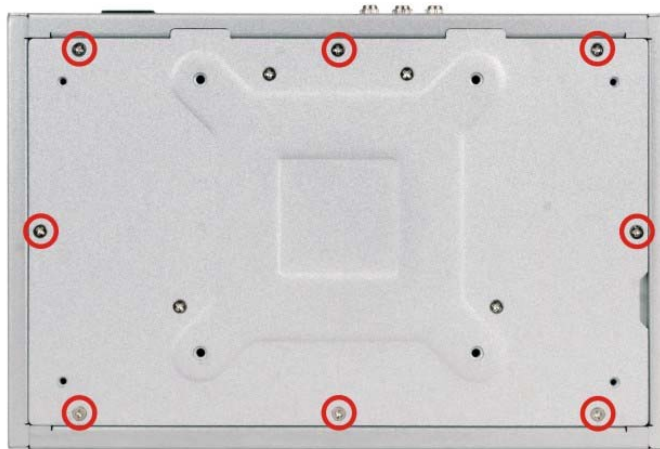

Figure 5-1: Bottom Panel Retention Screws
Step 1: Remove the bottom panel retention screws (**Figure 5-1**) and lift the bottom panel.